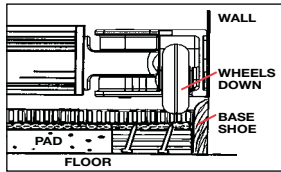

Figure 12
- D. Finally, attach Tail Block and place against the stretch-off wall. The wheels lift it over most existing base shoe, protecting it from damage. (See figures 12 & 13.)
D. With the wheels down, the tail block clears most existing base shoe. (See figure 12.)